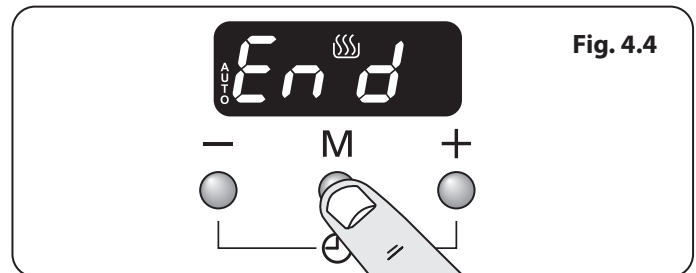

Fig. 4.4
1. Press the mode [M] button 3 times, until the display flashes 'End' (Fig. 4.4).